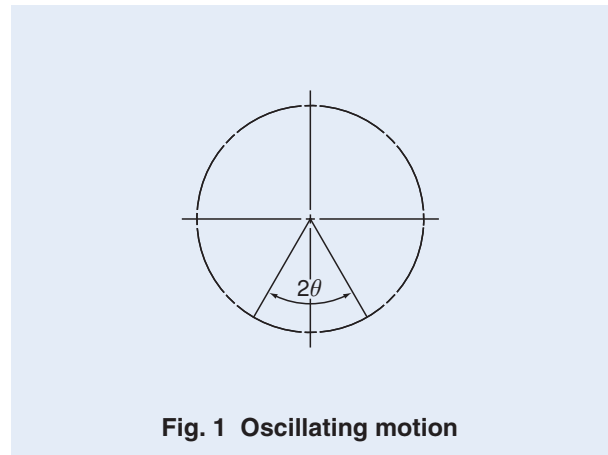

Fig. 1 Oscillating motion
- 2θ : Oscillating angle, degrees (Refer to Fig. 1)